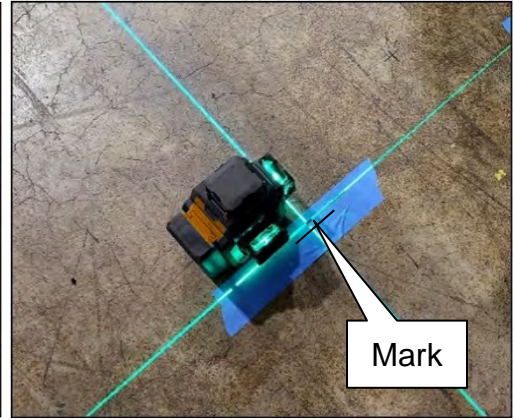

Figure 36
25. Place a mark on the floor below the laser line (Figure 36).